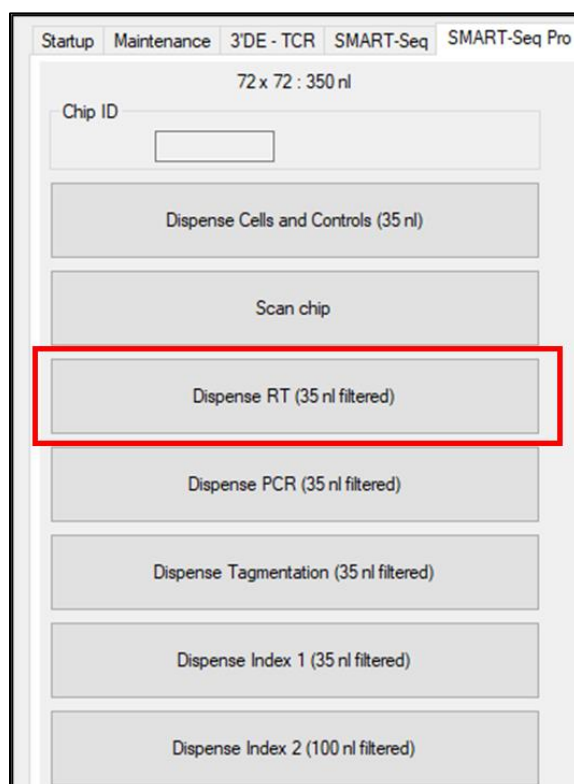

Figure 14. Using CELLSTUDIO software to dispense the RT mix.
- b. At Step 8, click the [Dispense RT (35 nl filtered)] button (Figure 14).